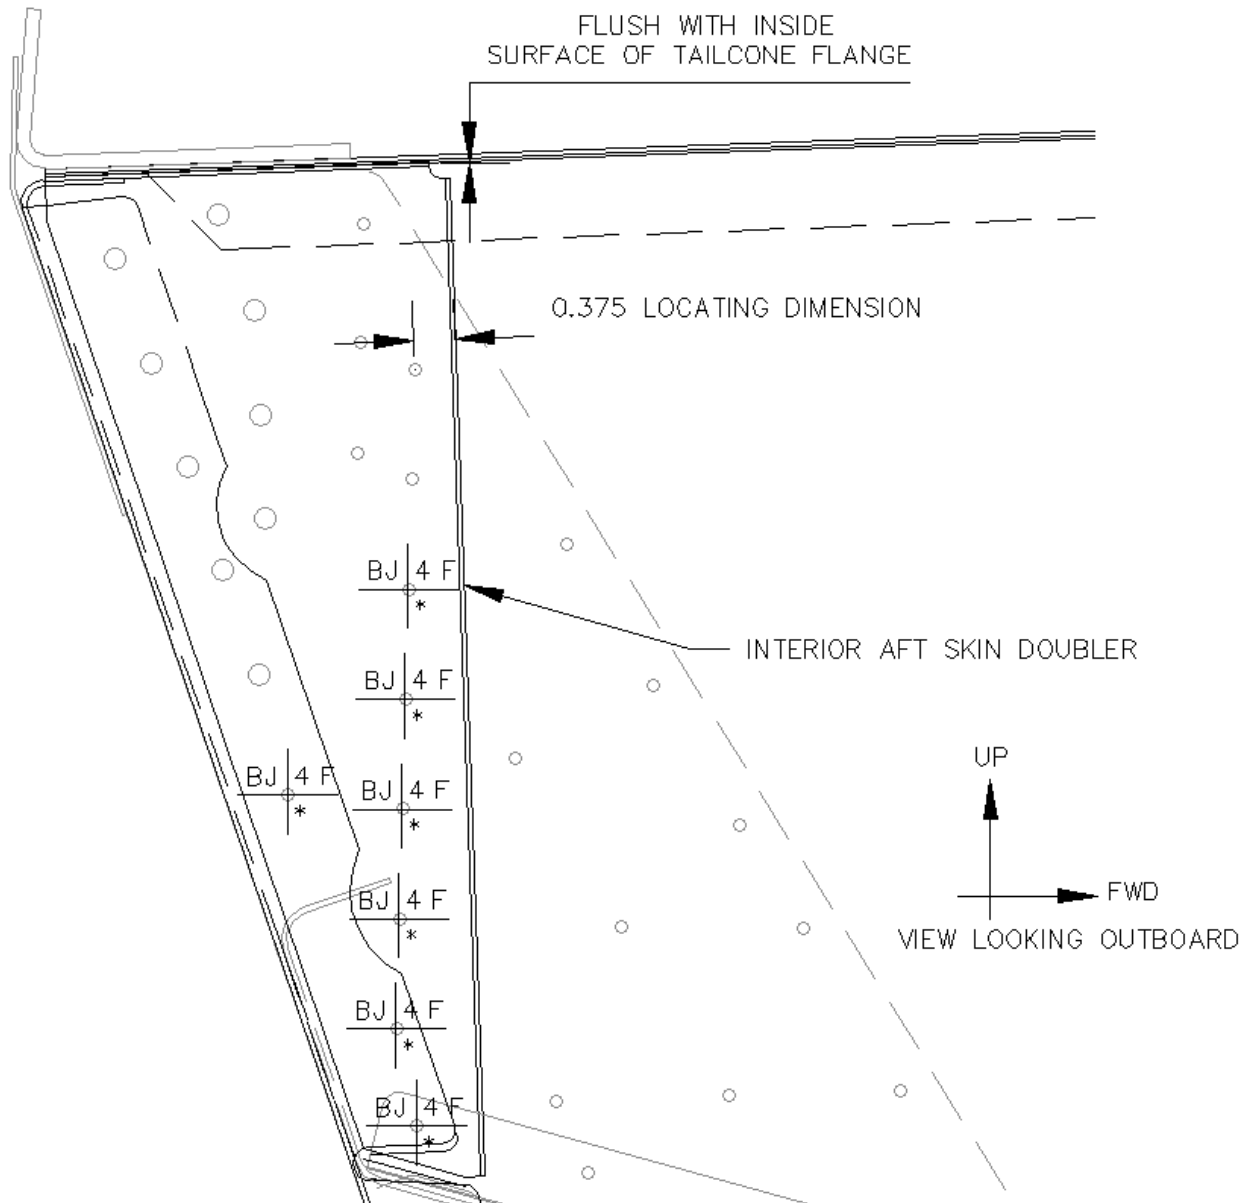

Figure 10 – Locating Dimension and installation for Interior Aft Skin Doubler
5. Temporarily locate new Doublers as shown in Figure 10 and match drill fastener hole locations and diameters from Tailcone Skin.